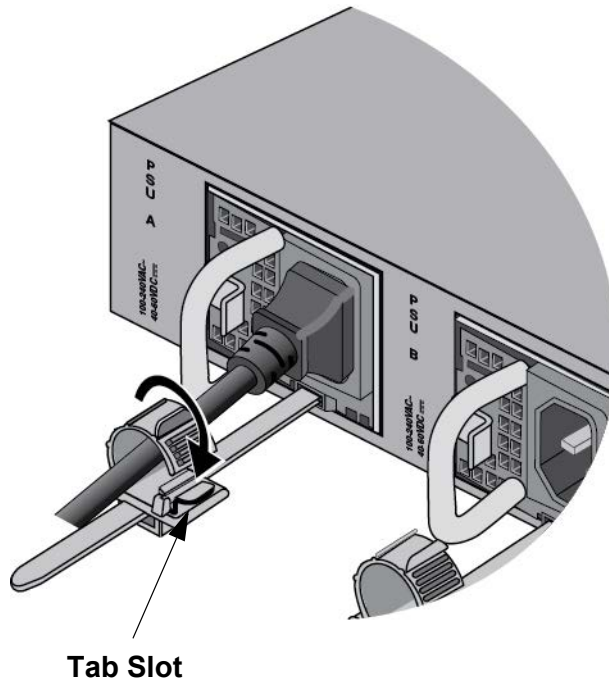

Figure 126. Securing the Power Cord with the Restraining Strap
2. Move the power cord into the restraining strap and secure the strap by feeding it into the tab slot. Refer to Figure 126 on page 201.